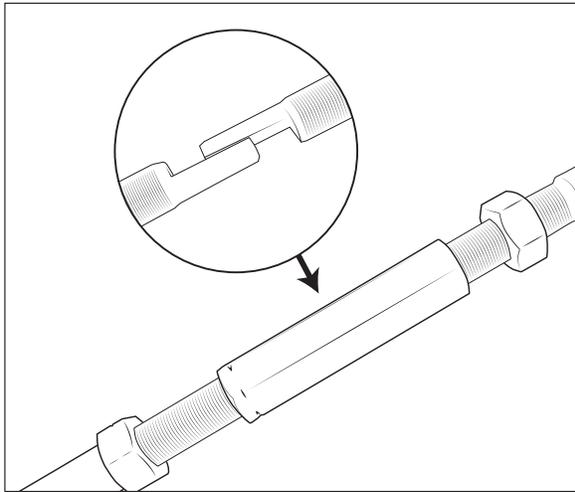

Figure 34
- b. Thread the adjuster sleeve onto the AEV drag link and the drag link end at the pitman arm end at the same time. Thread it all the way to the jam nut that was left in position on the pitman arm side (fig. 34).